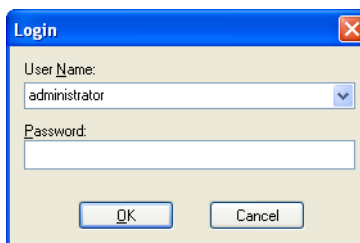

Figure 4-1. Login Dialog Box
1. Launch the TestStand Sequence Editor by selecting **Start» Programs»National Instruments»TestStand 3.0»Sequence Editor**. After the sequence editor displays the main window, it launches the Login dialog box, as shown in Figure 4-1.